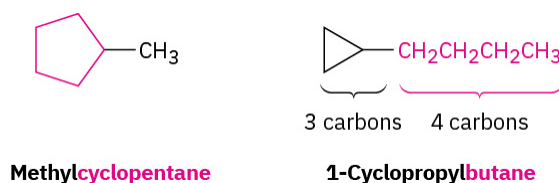

Figure 20.4f. Alkyl substituted cycloalkanes methylcyclopentane and 1-cyclopropylbutane. (credit: Organic Chemistry \(OpenStax\), CC BY-NC-SA 4.0)
1. Find the parent. Count the number of carbon atoms in the ring and the number in the largest substituent. If the number of carbon atoms in the ring is equal to or greater than the number in the substituent, the compound is named as an alkyl-substituted cycloalkane. If the number of carbon atoms in the largest substituent is greater than the number in the ring, the compound is named as a cycloalkyl-substituted alkane. Refer to Figure 20.4f. for examples of substituted cycloalkanes.